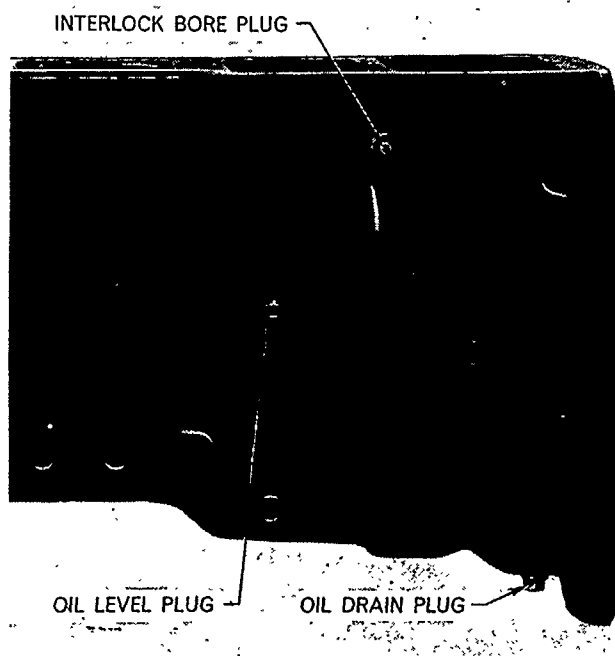

Figure 59
4. Drain the oil from the transmission by removing the drain plug situated in the bottom of the compartment, Figure 59.
5. Refill the transmission with oil of the specified grade (See Specifications, Chapter 3) until up to the level plug hole situated on the left-hand side of the transmission case, Figure 59.